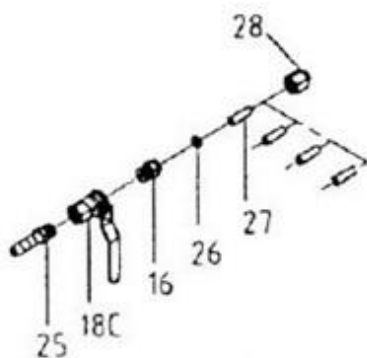

Figure 5
5. Refer to Figure 5 to install the nozzle shut-off valve (18-C).